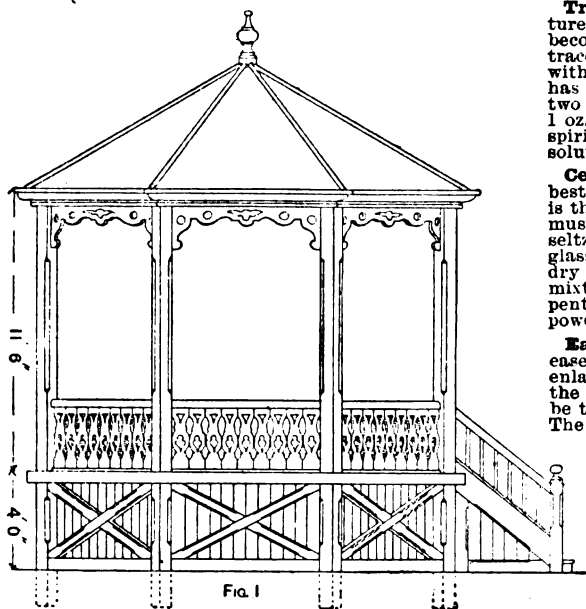
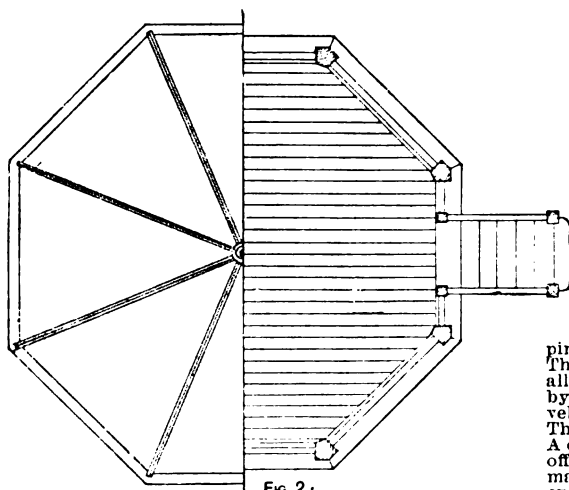

FIG. 1
FIG. 2.
**Design for Band-stand.**—Fig. 1 shows an elevation of a band-stand, and Fig. 2 a half plan of the roof and half sectional plan at the level of the platform. The posts should be of timber about 9 in. square, and the sill pieces 6 in. by 4 in., framed into the lower parts of the posts as indicated. The curb should be 11 in. by 4 in., mitred and framed into the posts; the spaces between the sills and curb should be braced with 4 in. by 3 in. stuff, stop-chamfered and boarded with 1 in.